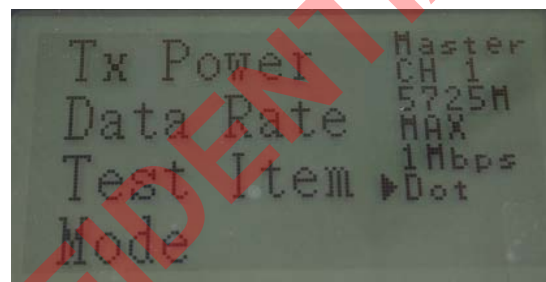

Fig 10
- 2、 Press 'Enter' button, the cursor jumps to Sub Menu as shown in Fig 10.